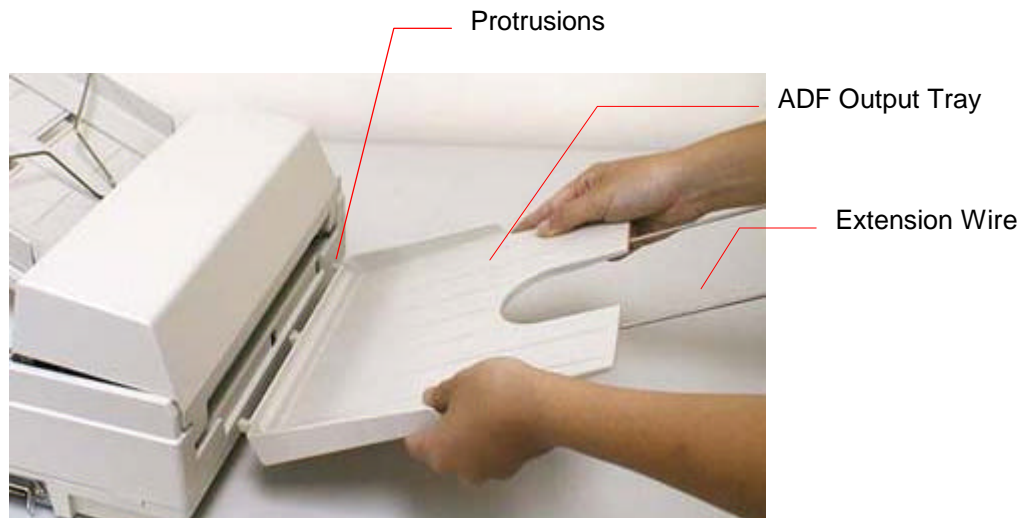

Figure 2-5 Install the ADF Output Tray
- i). Hold the output paper tray some 30 degrees aslant as shown in Figure 2-5.